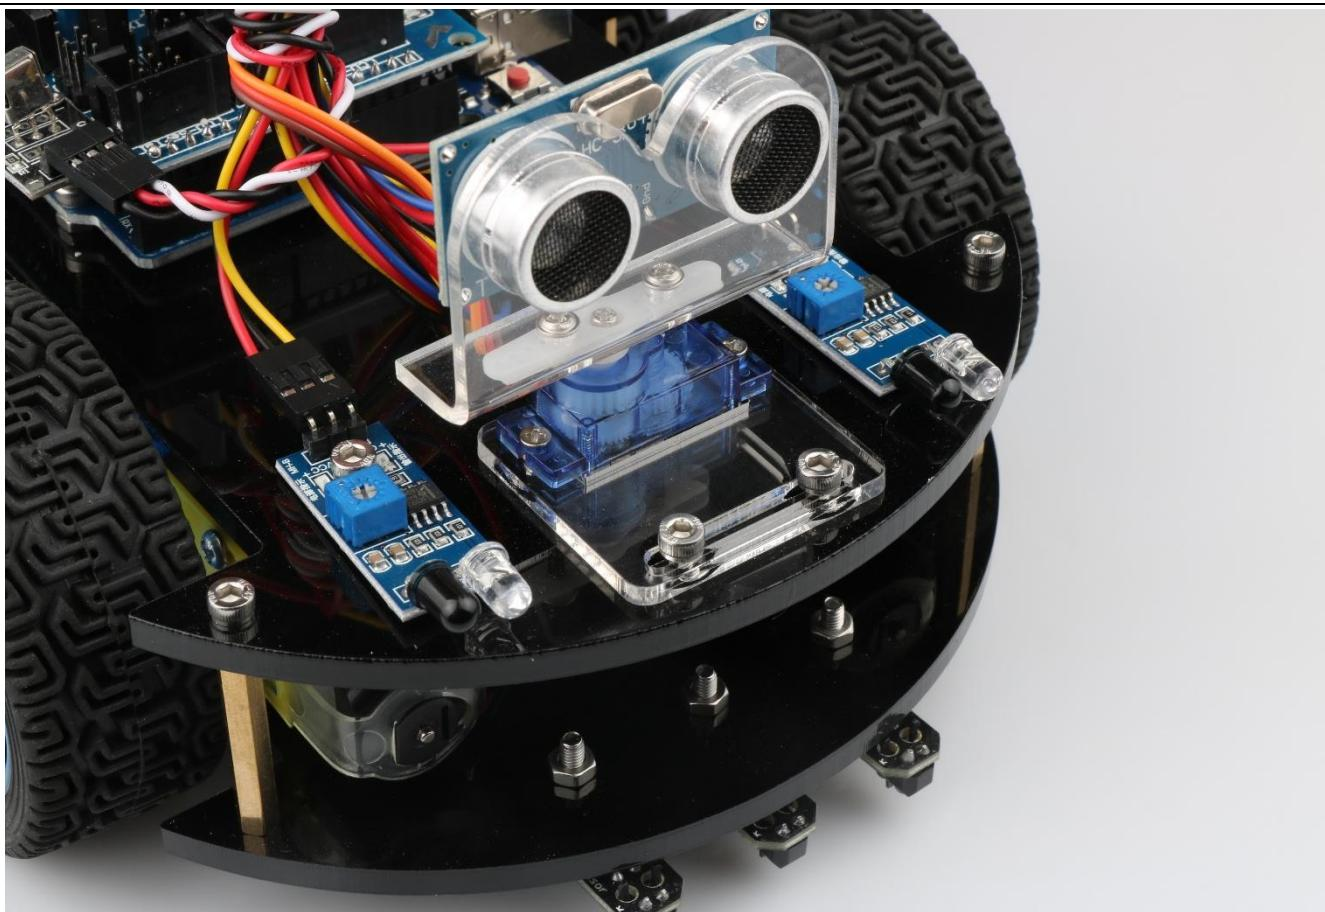

Figure .3.2.31 Installation Diagram of the Steering Gear and Ultrasonic Module
1. Installing the steering gear, ultrasonic module to the car which has been completed in fourth step to the seventh step in 3.1.2) as shown in Fig.3.2.31.